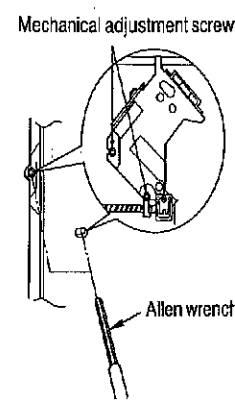

Fig. 3
4. Alternately adjust the two mechanical adjusting screws with the 2.0 mm allen wrench (SZP1101C) until the RF signal amplitude on the oscilloscope is maximized. (Shown in Fig. 3)